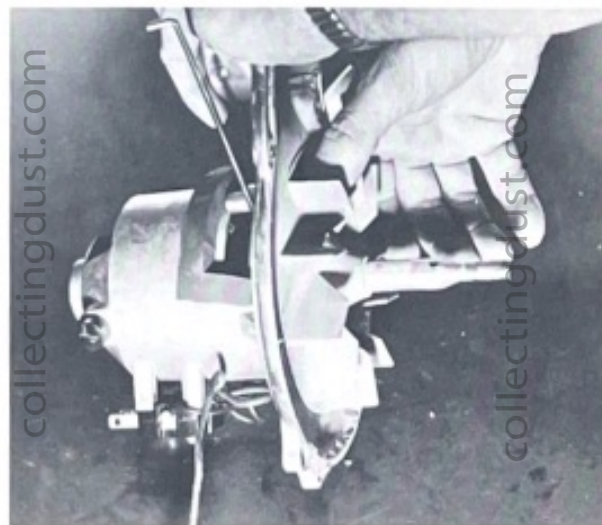
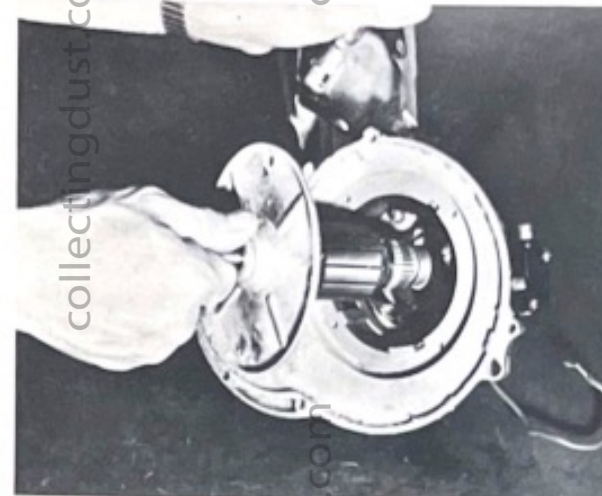

Figure 1-48. Removing fan and pulley from the armature.
Figure 1-49. Removing armature and bearings from the motor housing.
(3) If worn or damaged, pull the seal O-ring (60) from the groove of the fan housing.
(4) If the nozzle lock (68) is damaged, center punch and drill out end of the screw (66); remove the screw, spring (67), and nozzle lock.
g. Insert a fan locking pin (T104) or an ice pick through the ventilating hole of the motor housing and through the hole in the armature shaft to hold the armature from turning as shown in figure 1-48; turn the fan and pulley (55, fig. 1-3) in a clockwise direction to remove it from the left hand threads of the armature shaft.
i. Remove the four screws (54) that secure the front bearing plate assembly (53) to the motor housing.
j. Remove the assembled front bearing plate, armature (51), and bearings by pulling on the armature shaft as shown in figure 1-49. This is a tight fit and considerable effort may be required. Remove the grease retainer washer (49, fig. 1-3), which sometimes sticks to the rear bearing, and the bearing finger spring (48) from the motor housing.
(6) Position the field leads and insulating tube as shown in figure 1-55. Connect the shorter field lead and one of the headlight leads to the terminal at the side of the foot switch (see figure 1-49). Position the foot switch over the insulating tube on the motor housing casting so that the prongs extend to